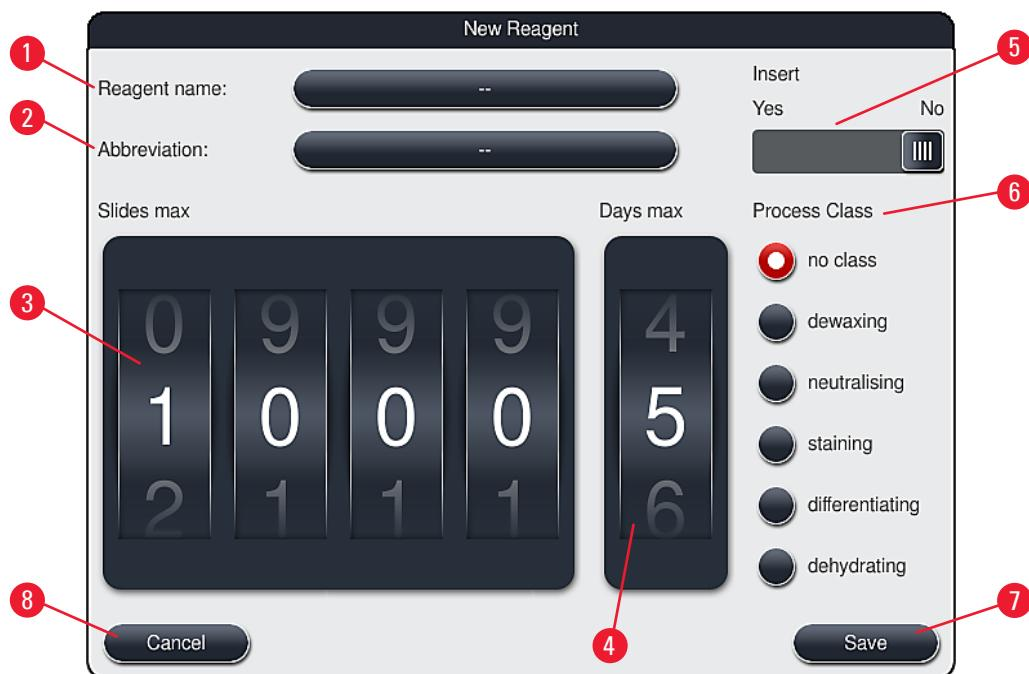

Fig. 39
- It opens the entry window (→ "Fig. 39") for the new reagent to be created.
- It opens the entry window ( $\rightarrow$  Fig. 39) for the new reagent to be created.